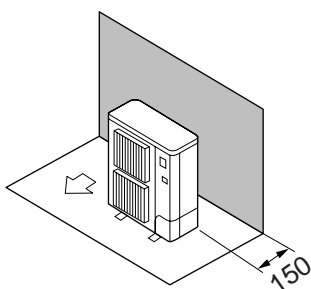

Fig.2-4
- Obstacles at rear only (Fig. 2-4)